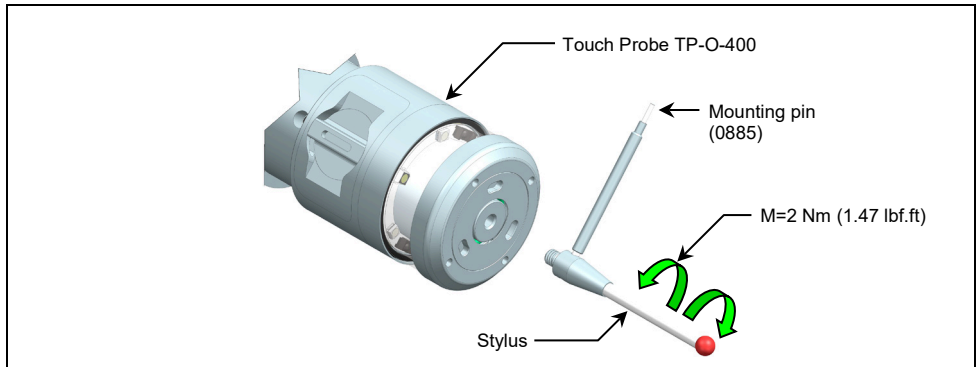

Fig. 5 **Stylus Change**
2. Carefully screw the new stylus with mounting pin into the touch probe (Fig. 5).